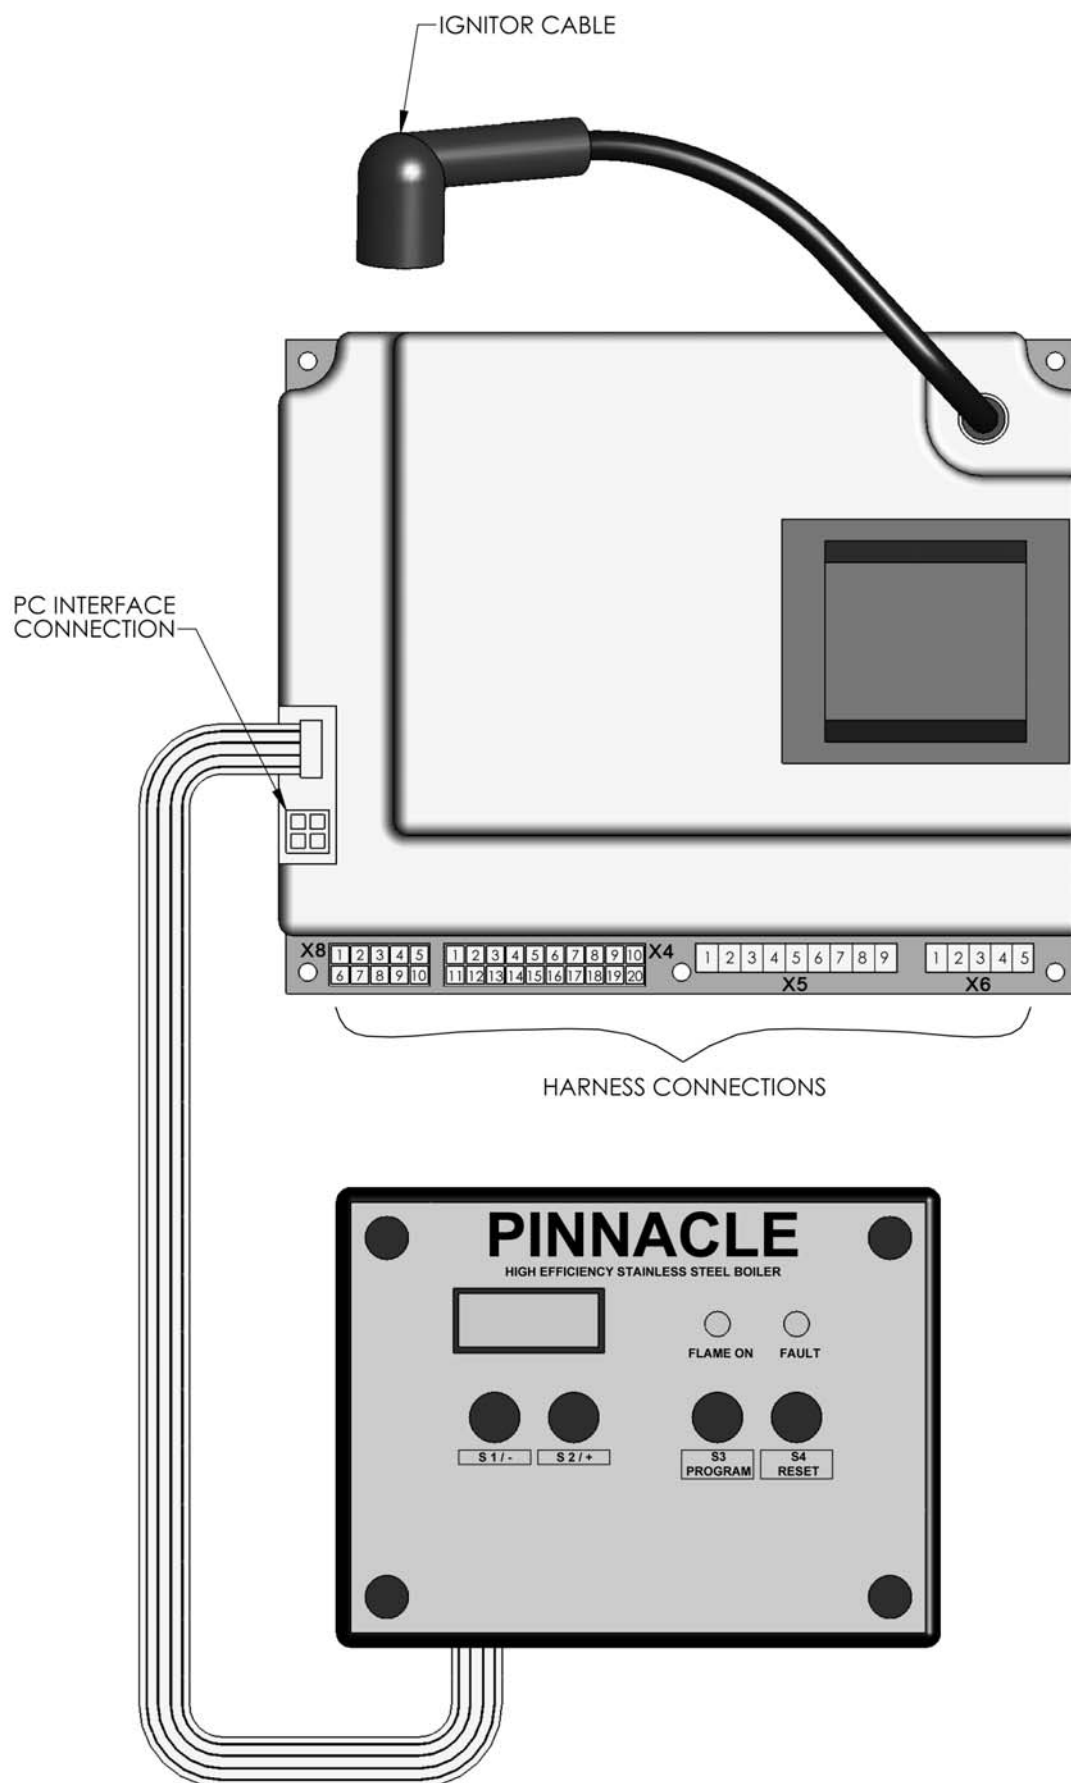

Figure 6.3: P825 Control Board with Molex® Connector & Pin Designations
8. The boiler circulator board is shown in Figure 6.3.